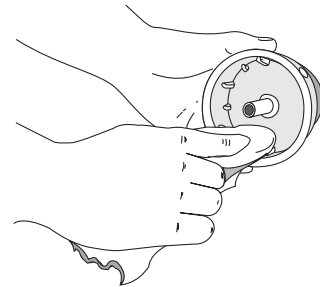

Fig. 32
4. Use a clean cloth to clean the the inner reel, spring, shaft and inner surface of the outer spool (Fig. 32).